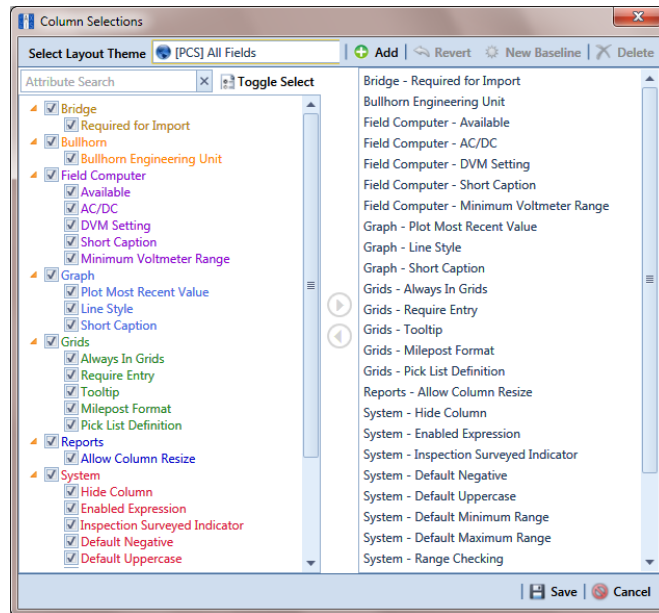

Figure 2-18. Column Selections
- 2 Click  **Customize** to open the *Column Selections* dialog box (Figure 2-18).
- 4 To remove one or more fields in the layout theme, complete one of the following steps (Figure 2-18, page 47):